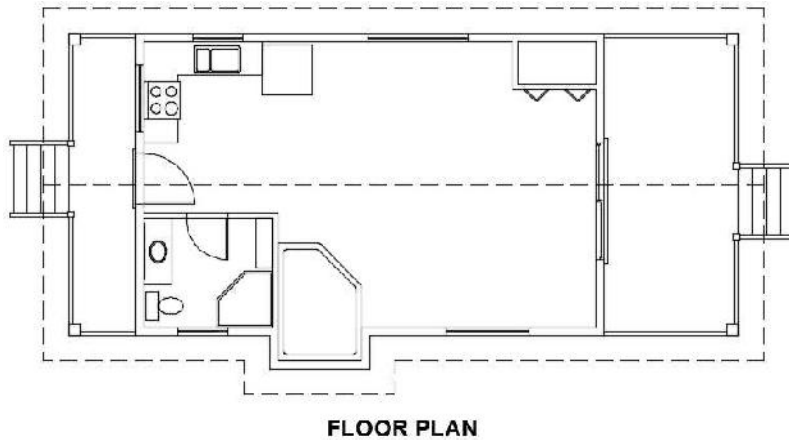

FIGURE 8.13: The drawing with the title complete
14. Erase the offset line and the vertical guideline. Your drawing will look like Figure 8.13.